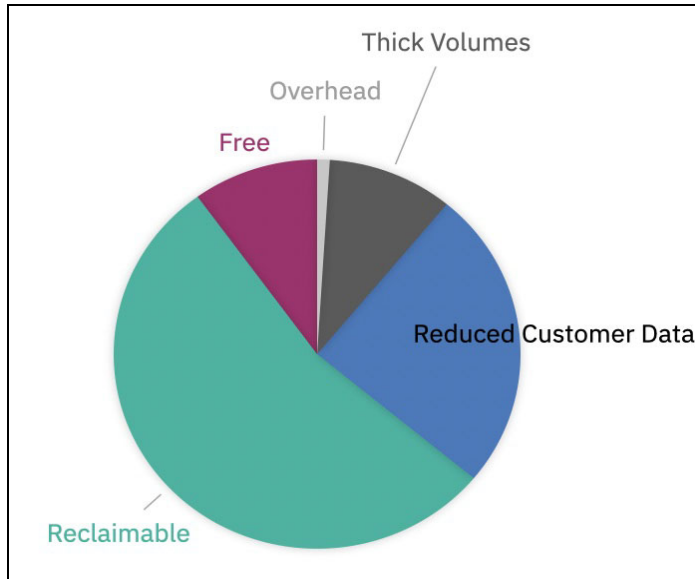

Figure 4-5 *Data reduction pool capacity use example*
Figure 4-5 shows an example of steady state DRP.
- ▶ If you create a large capacity of fully allocated volumes in a DRP, you are taking this capacity directly from free space only. This could result in triggering heavy garbage collection if there is little free space remaining and a large amount of reclaimable space, as shown in Figure 4-5.